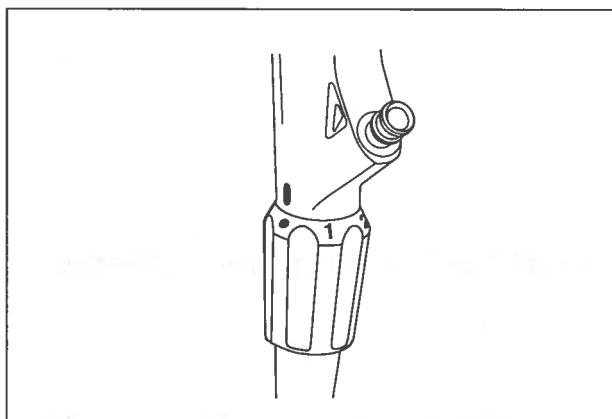

Figure 3.4
1. Confirm that the index markings ("●", "1", "2", "3") on the flexibility adjustment ring and the "I" mark at the bottom of the grip section are clearly visible (see Figure 3.4).